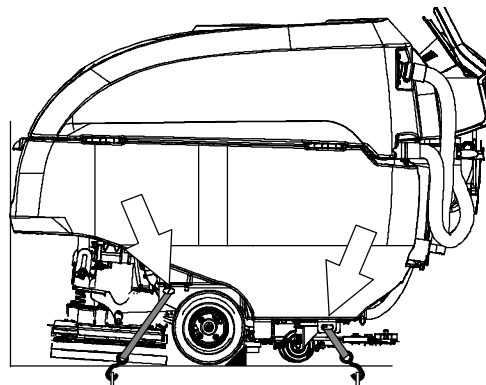

FIG. 97
4. Place a block behind each wheel (Figure 97).
5. Using tie-down straps, secure the machine using the four tie-down brackets located on the machine frame (Figure 97). It may be necessary to install tie-down brackets to the floor of your trailer or truck.